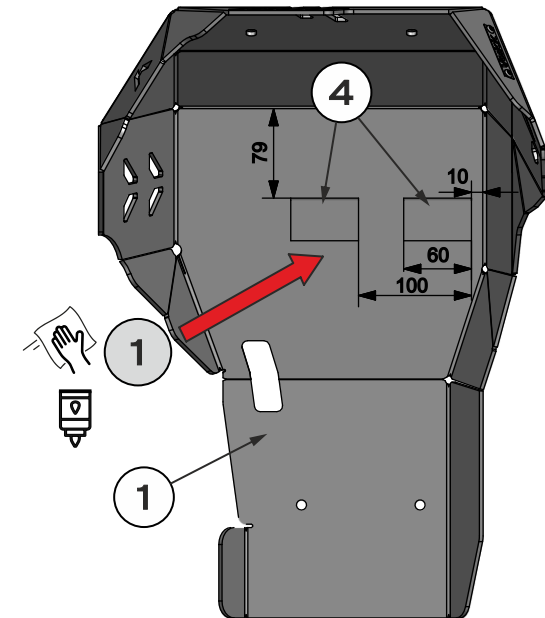

Fig. 2
1. Adhere the rubber buffers [4] to the Engine Guard [1] using the pre-applied adhesive tape, according to the dimensions shown in the drawing. [Fig. 1], [Fig. 2],